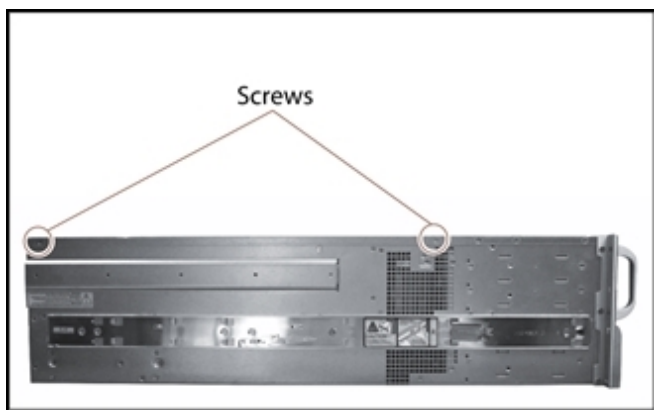
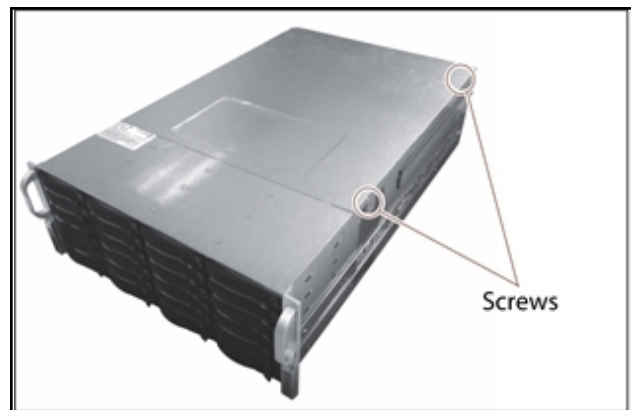

Figure 8 Remove the screws on the left-hand side of the chassis.
Figure 9 Remove the screws on the right-hand side and top of the chassis.
- c. Using a #2 Phillips screwdriver, install the four screws to secure the cover to the chassis (see Figure 8 and Figure 9 on page 29).